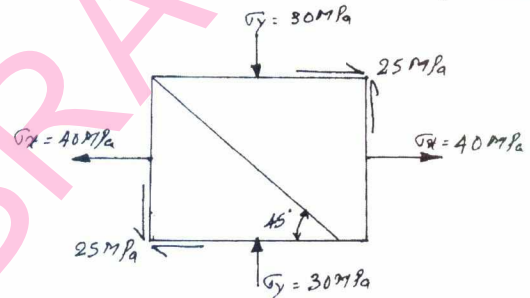

Fig.Q1(d)
- d. A point in a structural member subjected to plane stress as shown in Fig.Q1(d). Determine the following: